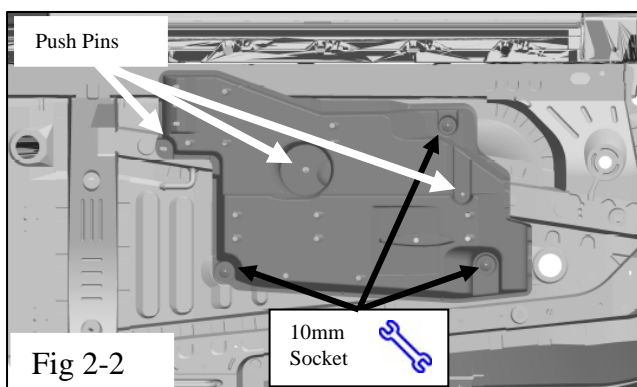

Fig 2-2
- Remove and save right hand plastic under-cover and hardware for reattachment. Use 10mm socket to loosen the 3 attachment nuts and remove the 3 push pins. (Fig 2-2)